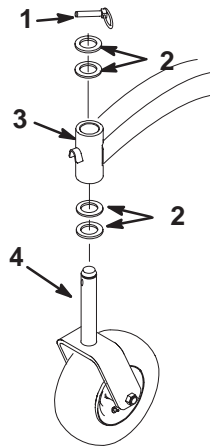

Figure 65
2. Remove the locking pin and spacer(s) from the top of the caster wheel fork (Fig. 65).
6. Inspect the caster wheel fork for wear and replace if necessary (Fig. 65).
7. Slide the caster wheel fork through the bushings in the mounting tube. Replace the spacer(s) onto the fork and secure with the retaining ring (Fig. 65).